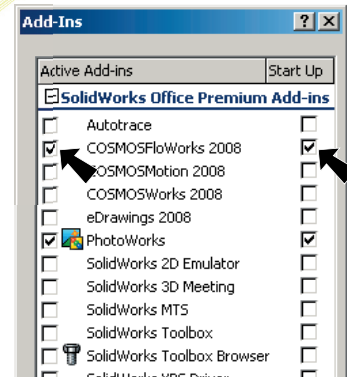

Fig. 1
Step 3. In the dialog box, scroll down to **COSMOSFloWorks** and place a check in the check box under **Active Add-Ins** and **Start-Up**, **Fig. 1**. Click OK.